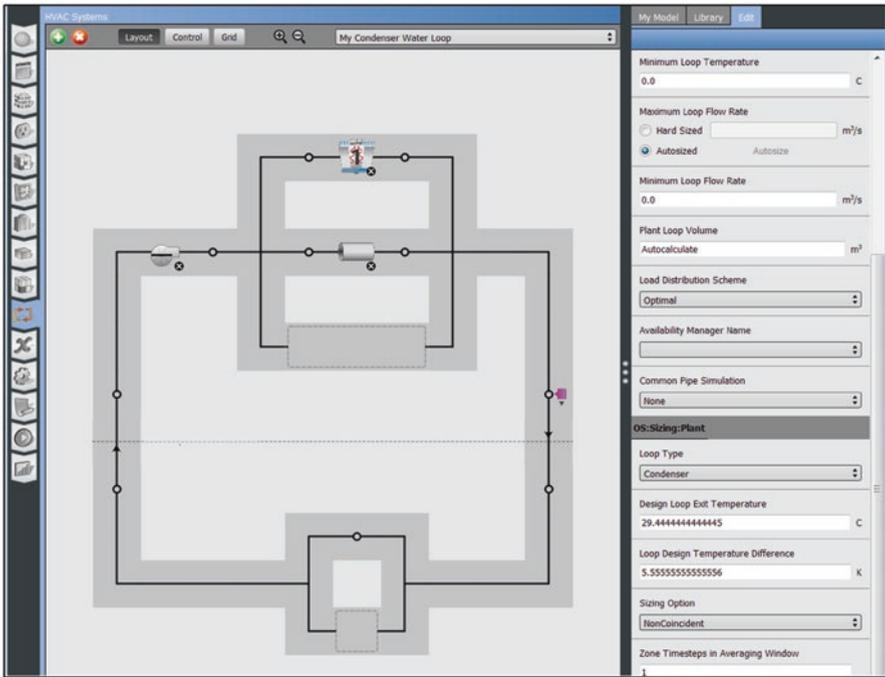

Fig. 5.47 Condenser Water Loop with initial components
3. Add Objects to your Loop by dragging them from the  onto Nodes as shown in Fig. 5.47: